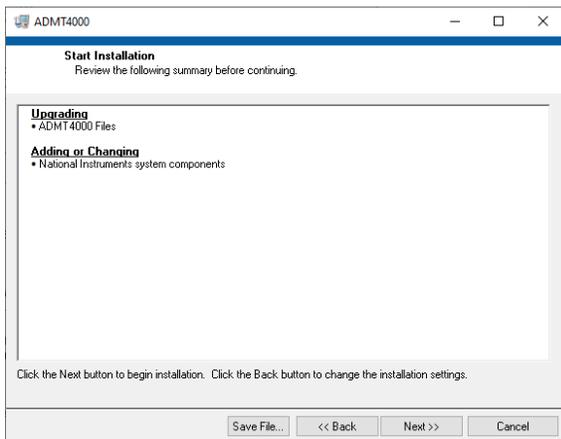

Figure 4. ADMT4000 Installation Summary
3. A summary of the installation then displays. Click **Next** to continue (see Figure 4).